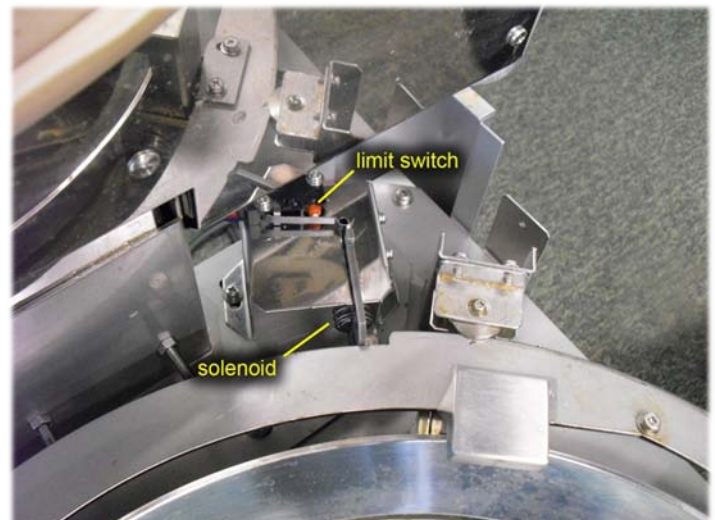

Figure 3
3. Locate the locking mechanism which consists of the limit switch and the solenoid assembly. See Figure 3.
1. Locate the solenoid assembly. See Figure 3.
4. The solenoid should now be free to extend into the position as shown in Figure 3.